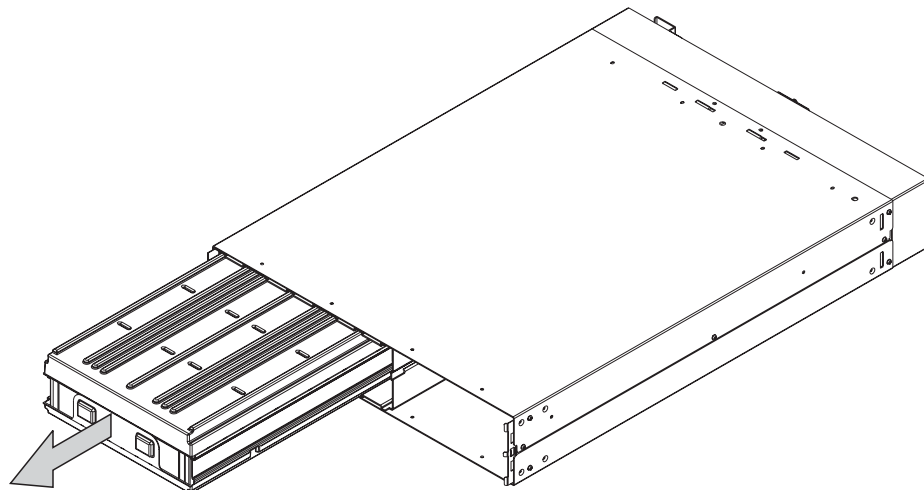

Figure 116. Removing the uninterruptible power supply battery
4. Remove the battery plate, which will then allow access to the battery (see Figure 116 on page 201).
**The battery weighs 20.4 kg (45 lb). Do not attempt to lift it by yourself. Ask another service representative for aid. (27)**